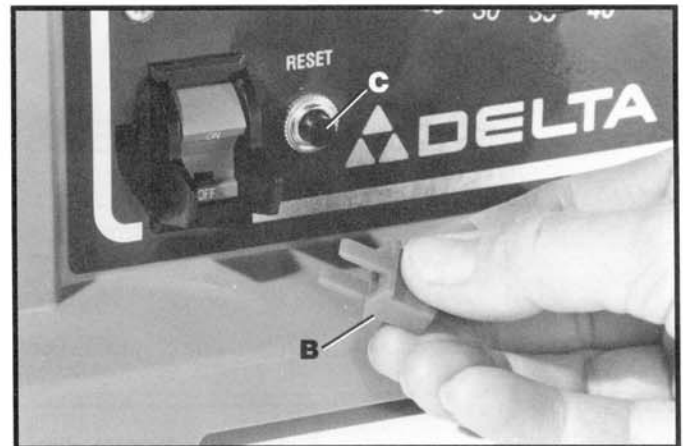

Fig. 19
We suggest when the saw is not in use the on/off switch be locked in the "OFF" position. This can be done by grasping the switch toggle (B) and pulling it out of the switch as shown in Fig. 19. With the switch toggle (B) removed the switch will not operate. However, should the switch toggle be removed while the saw is running, it can be turned "OFF," but cannot be restarted without inserting the switch toggle (B) back into the switch.
Your saw is equipped with a reset overload relay button (C) Fig. 19. If the motor shuts off or fails to start due to overloading (cutting stock too fast, using a dull blade, using the saw beyond its capacity, etc.) or low voltage, turn the switch to the "OFF" position. Let the motor cool three to five minutes and push the reset button (C), which will reset the overload device. The motor can then be turned on again in the usual manner.